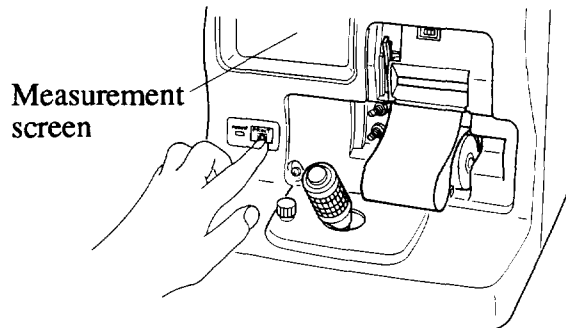

Figure 8-5
- (4) While the measurement screen is displayed, press the [PRINT] switch (see Figure 8-5).